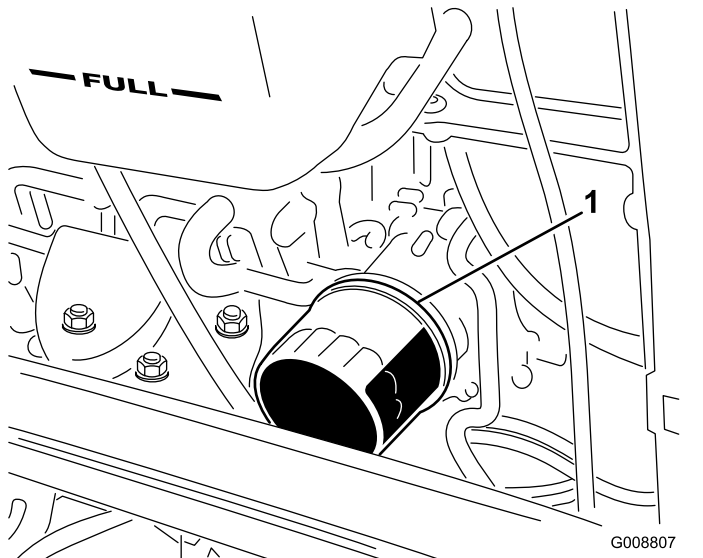

Figure 78
4. Remove the oil filter (Figure 78).